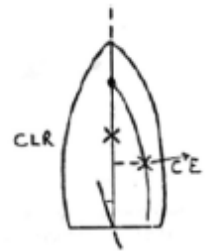

Fig 1
a) Weather and Lee helm: The statement of whether a boat is carrying weather or lee helm is a question of balance between the position of the centre of effort (CE) of the sail and the centre of lateral resistance (CLR) of the hull and its foils. Simply put, if the centre of effort of the sail is behind the centre of resistance of the hull, largely controlled by the centreboard, then the boat will have a tendency to be twisted and turned towards the wind. This will require the helm to be held to weather of the boat's centre line in order to bear the boat back off the wind and maintain a straight line course and hence the term weather helm, (fig 1).